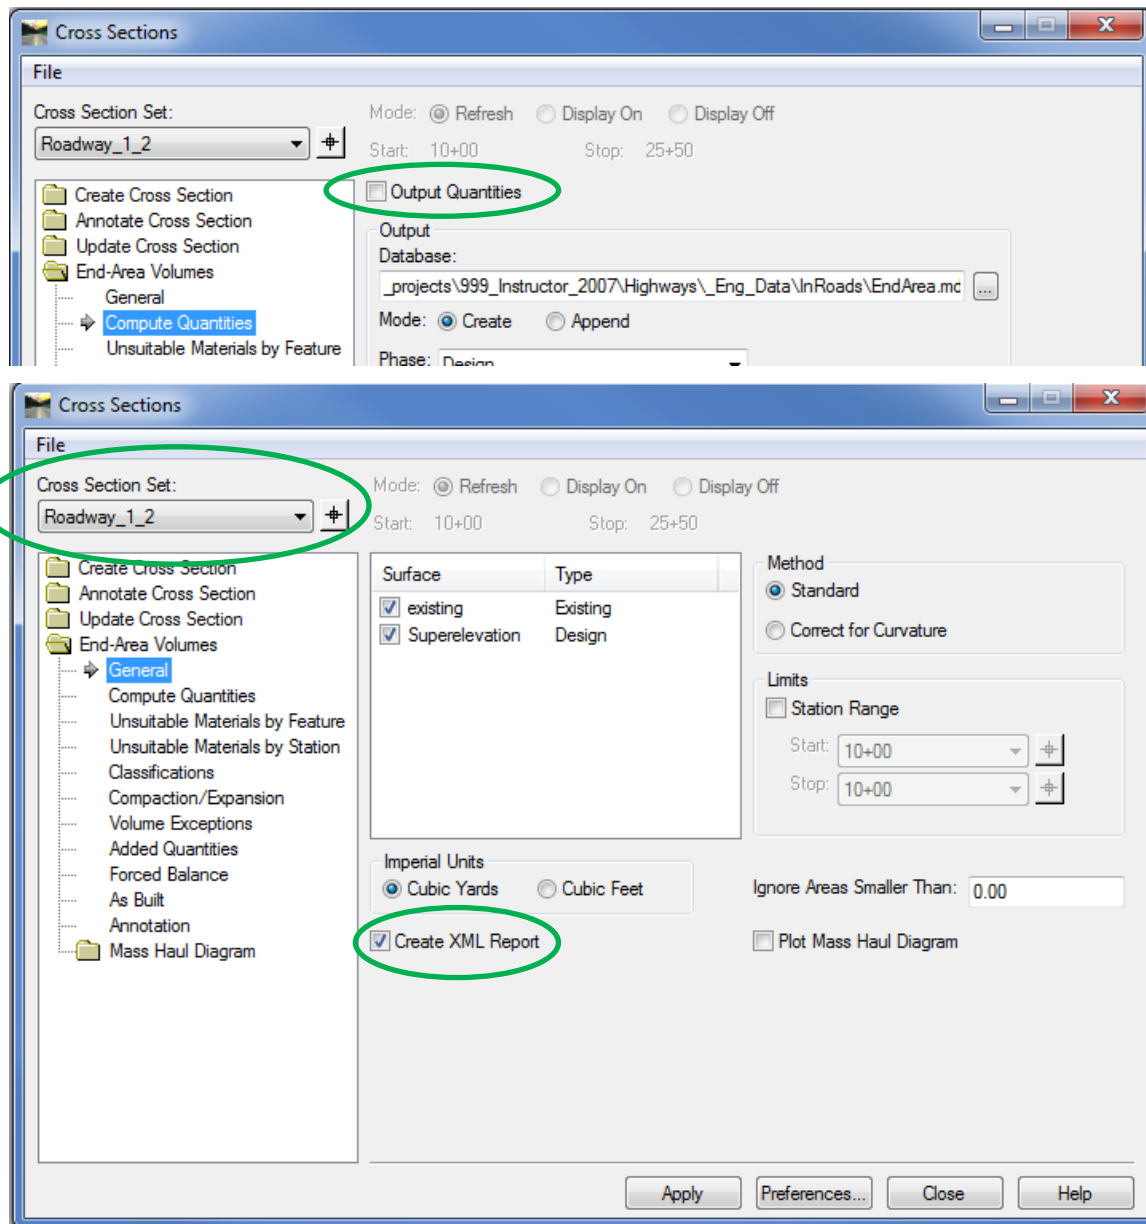

Figure 9-2 InRoads End-Area Volumes Dialog Box
- A. In the Cross Sections box open the **End-Area Volumes** folder. Click on Compute Quantities. Click **OFF Output Quantities**. See Figure 9-2.